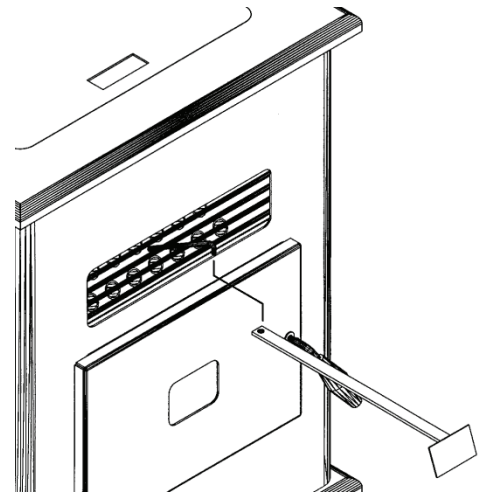

FIGURE 15
- b. Clean heat exchanger tubes (see "**CLEANING**" and Figure 15).
a. **Heat Exchange Tubes** - Your Breckwell Big E stove is designed with a built-in heat exchange tube cleaner. This should be used every two or three days to remove accumulated ash on the tubes, which reduces the efficiency of your unit. Insert the handle end (with hole) of the cleaning tool onto the cleaning rod (refer to Figure 15). The cleaner rod is located in the grill above the stove door. Move the cleaner rod back and forth several times to clean the heat exchanger tubes. When finished, be sure to leave tube cleaner at the rear of the stove.